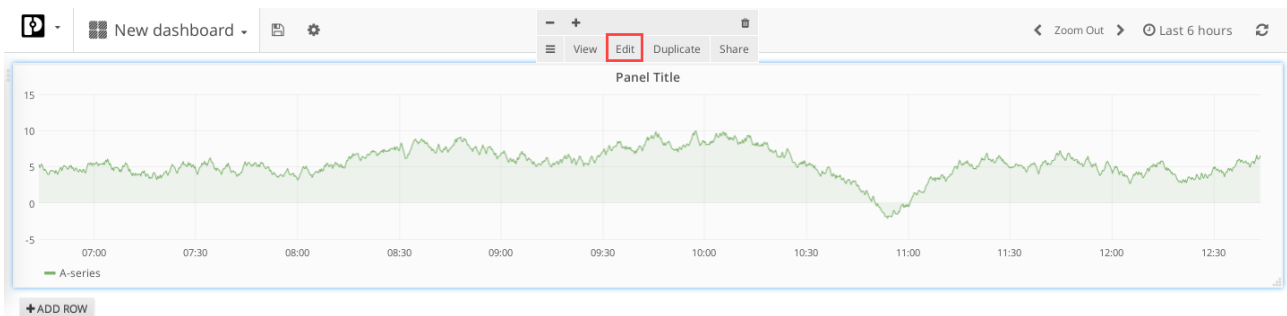

Figure 7-9 Grafana: Example graph; Edit Panel Title
- An example display opens for the type of graphical display selected (see Figure 7-9).